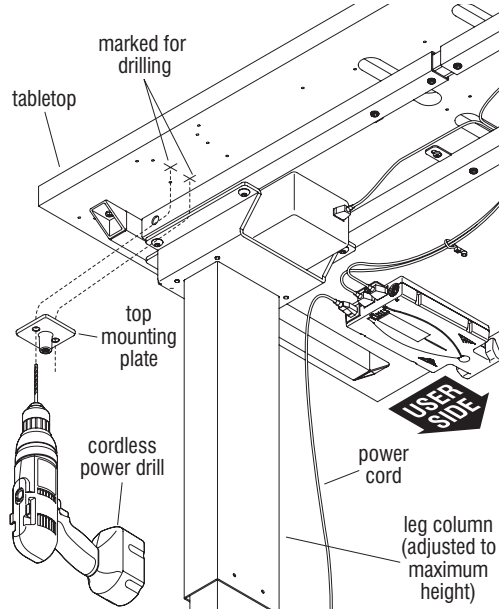

Figure 1
1. Position the top mounting plate underneath the back, non-user side of the tabletop at the desired location. Assume that the power cords can be routed easily to the mounting plate and to a power source (Figure 1).
2. Using the top mounting plate as a template underneath the table, align the unit straight, and $\frac{1}{4}$ " back from the table edge, then mark the two mounting hole locations and move the plate away (Figure 1).
3. Carefully bore a $\frac{3}{32}$ " pilot hole at the center of each marked location, underneath the tabletop using a cordless power drill. Take care to not drill too deep, piercing the table top (Figure 1).